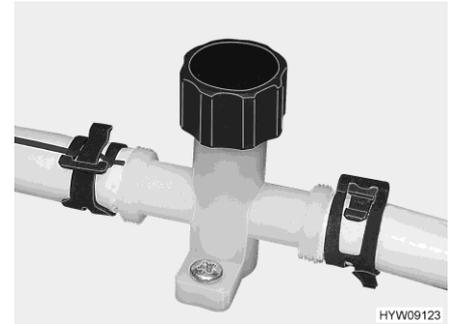

Fig. 127 Drain cock (water pipe)
- Close all drain cocks (Fig. 127). To do so, close the caps by turning them in a clockwise direction and set the rocking lever in a horizontal position. The safety/drainage valve and the drain cocks are installed in the bench box or under a floor trap.